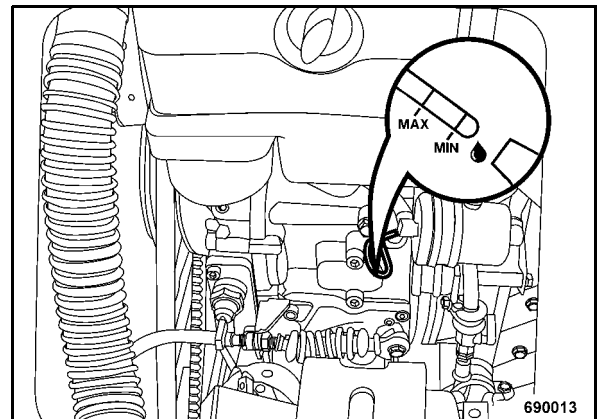

Fig. 41
- Pull the dipstick (Fig. 41) out, wipe it off with a lint-free, clean cloth and reinsert it until it bottoms.